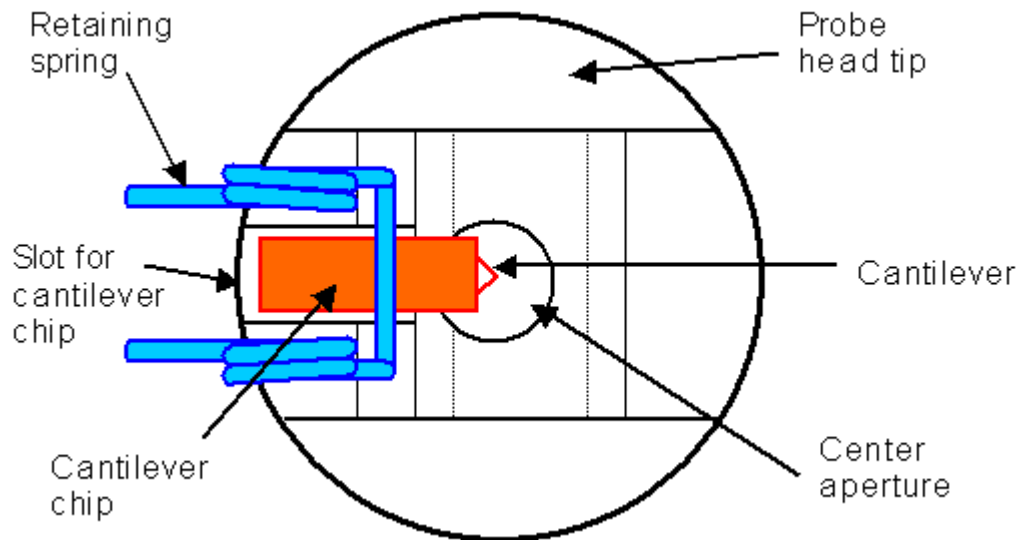
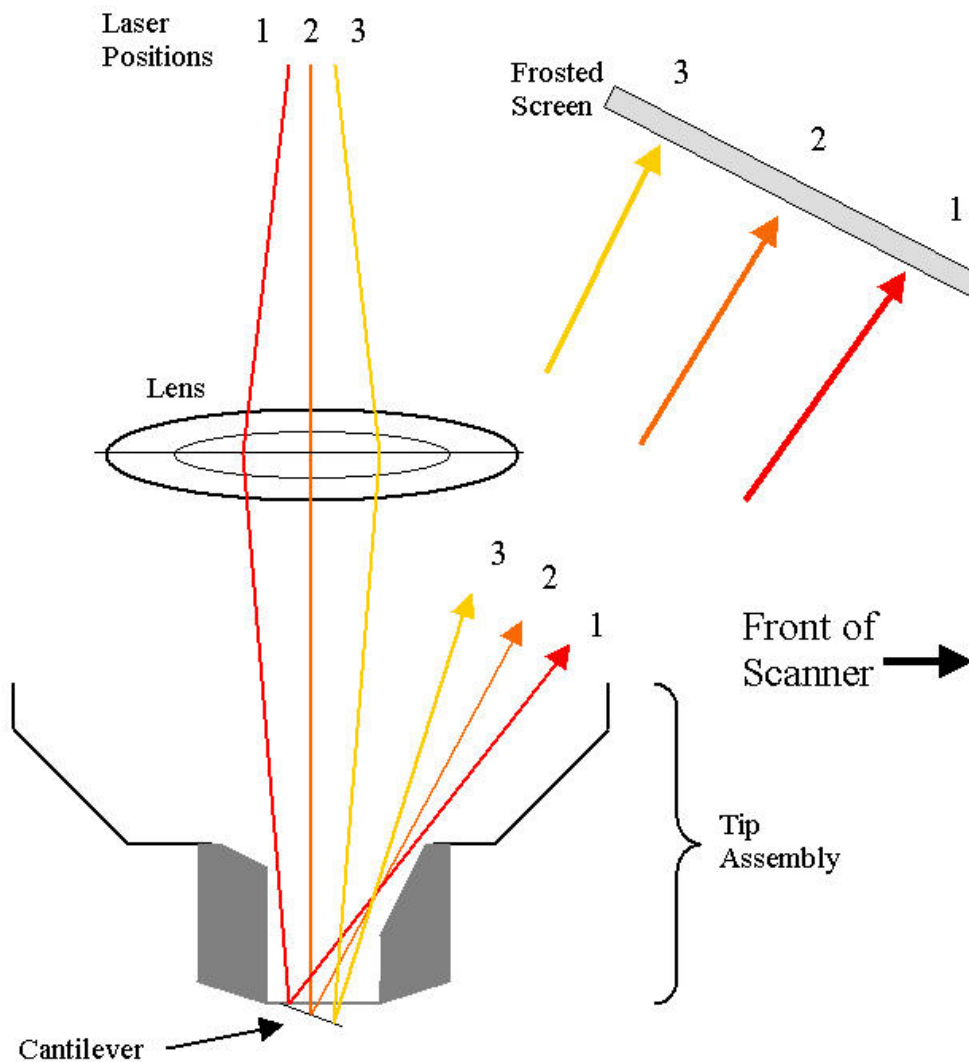

Figure 3.4 (Nose assembly)
Figure 3.5 (Laser deflection diagram)
- Use a fine tweezers to place the cantilever chip into the slot while the spring is lifted. Be very careful when lowering the spring back onto the chip, as it can snap down and break the chip. There is no stop in the slot; use Figure 3.4 and Figure 3.5 as a guide.
Since the cantilever chip is held by the spring from the top only, cantilevers at both ends are preserved. Cantilever position at the end of the nose affects the deflected laser spot on the observing window of the scanner, as shown below in Figure 3.5.